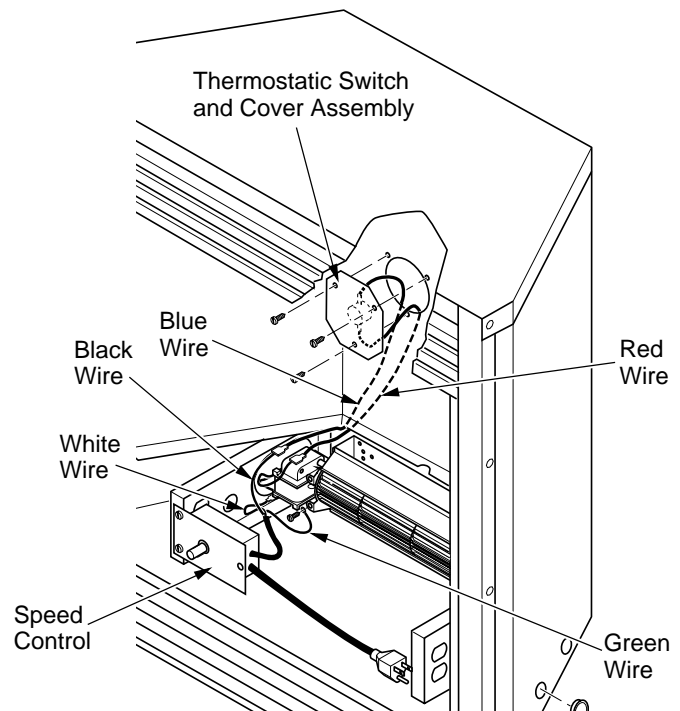

Figure 18 - Installing Switch and Cover Assembly, and Speed Control (VTGF33NR/VTGF33PR Shown)
2. Using screw provided, attach green ground wire from speed control cord to blower housing. Tighten screw securely (see Figure 18).
4. Remove the three screws (do not discard) and cover plate from center of firebox wrapper rear wall. Discard this cover plate (see Figure 18).
5. Mount the supplied thermostatic switch and cover assembly into firebox wrapper wall. Do this by feeding terminal ends of wire harness into the hole. Allow wires to fall to bottom of firebox cavity (see Figure 18).
6. Using three screws from step 7, attach switch and cover assembly to firebox wrapper rear wall. Tighten screws firmly (see Figure 18).
7. Firmly attach red wire from the thermostatic switch and cover assembly to either of the terminals on the blower motor (see Figure 18).
8. Firmly attach black wire from speed control cord to blue wire from thermostatic switch and cover assembly (see Figure 18).
9. Firmly attach white wire from speed control cord to remaining terminal on blower motor (see Figure 18).